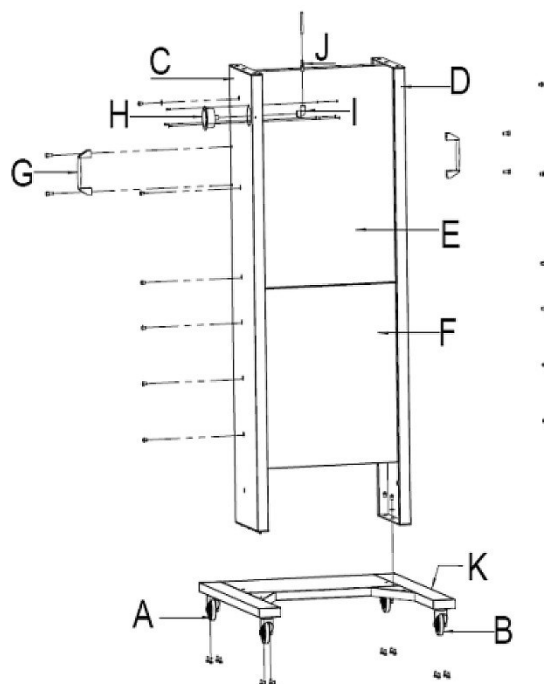

Fig. 5: Mount wheels and side panel
**Step 2:** Attach the two wheels (B, Fig.5) and castors (A, Fig.5) to the base frame and tighten them.
**Step 3:** Place the left and right side panels (C and D, Fig.5) on the base frame (E and F, Fig.5) and fasten them.
**Step 4:** Attach the handles (G, Fig.5) to the left and right side wall.
**Step 5:** Mount the pressure gauge (H, Fig.5) on the right side wall.